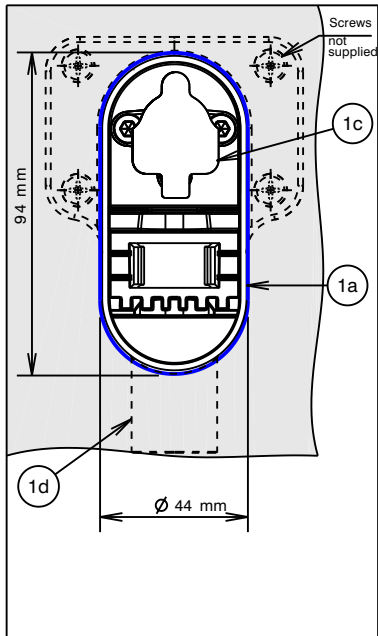
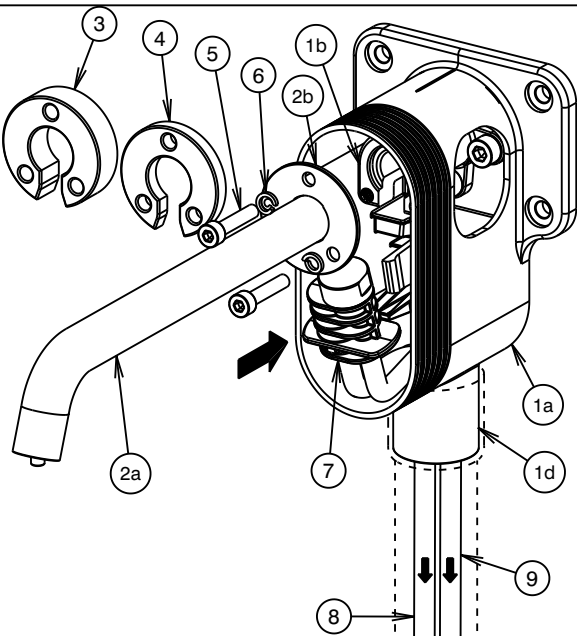
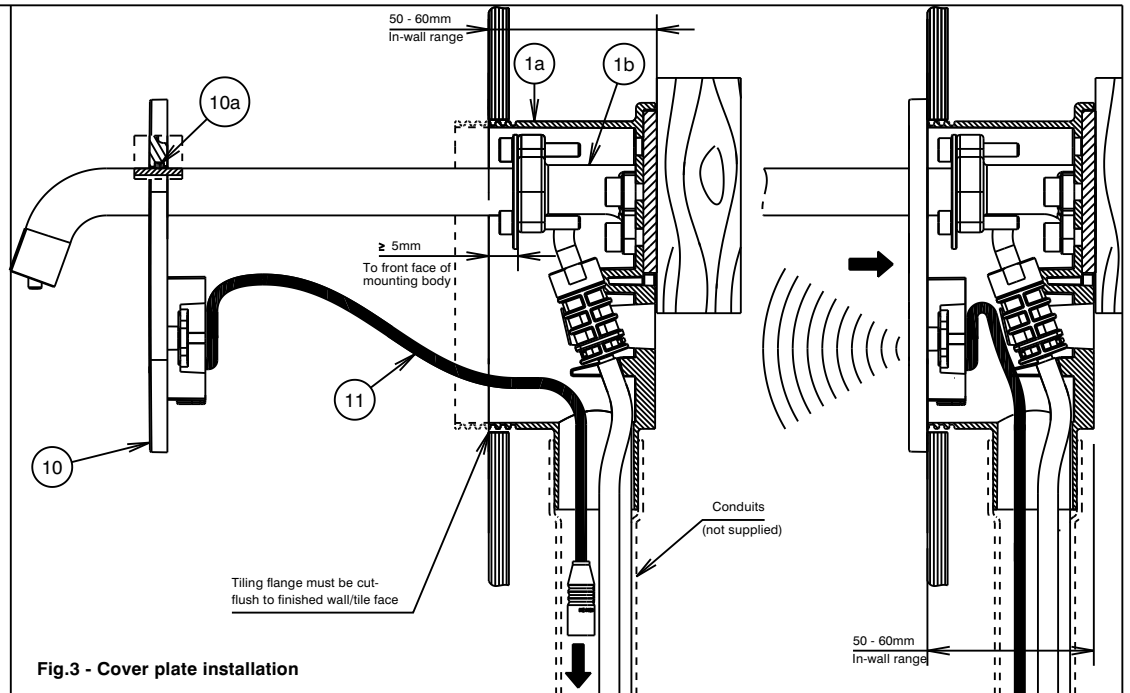

Fig.1 - Roughing kit installation
Fig.2 - Outlet & mixing valve installation
Fig.3 - Cover plate installation
- 1) Fit the housing (1a) onto a noggin in the wall and secure using 4 screws (not supplied) through the holes, Fig. 1. Before tightening, horizontal alignment must be checked by using the flat face on the top of the housing (1a).
- * Connection point (1d) is provided for terminating standard 25mm electrical conduit upto the control unit (12) mounted in front of the wall.
- * The allowable in-wall range from finished wall/tile face to the noggin is 50 - 60mm, Fig. 3.
- * The wall/tile cut-out must be $\Phi 44 \times 94$ mm to ensure enough sealing surface for cover plate (10), Fig. 1.
- 2) Check that the tiling flange on the housing (1a) is flush with the finished wall/tile face. Fig. 3. Cut if required.
- ii) Check that the front face of the mounting body(1b) is at least 5mm from the front of finished wall/tile face. 5mm spacer (4) & 10mm spacer (3) are provided to bring the outlet forwards if required. Spacers (3)or (4) can be placed between item (2b) and body (1b), as shown in Fig. 2.
- iii) Insert the soap & air tubes (8) & (9) into the housing (1a) and pass them through the hole of connection point (1d) as shown in (Fig. 2). Wire draw/fish tape can be used by carefully tying it to the tubes and pass through the conduits (not supplied) until the tubes come out at the open end, Do not pull the soap tubes out forcefully. Place the mixing valve (7) inside the housing as shown in (Fig. 2 & 3).
- iv) Fit the spring washers (6) onto the 3 screws (5).
- v) Align the 3 holes on the flange (2b) of outlet (2a) with the holes on mounting body (1b), insert screw (5) along with washer (6) into the flange (2b), through the threaded hole in body (1b) then fit the remaining 2 screws in remaining 2 holes in similar manner, screw them in and tighten using 3mm allen key.
- vi) Apply a suitable clear sealant to the back edge of the cover plate (10), leaving an unsealed section at the bottom for drainage. Insert black sensor cable (11) from the cover plate (10) into housing(1a) and pass it through the hole of connection point (1d) as shown in (Fig. 3). Continue feeding the cable through the conduits(not supplied) until the black cable end comes out the open end in front of the wall. Pass the hole in the cover plate (10) along with seal (10a) over the outlet as shown in (Fig.3), slide it back, position the cover plate by keeping the sides vertical and press firmly to ensure proper seal.